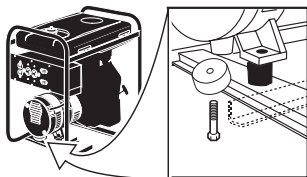

Figure 1
- Remove shipping block from under the gen head. Unscrew bolt and remove the shipping block. It is very important that this is removed before starting your generator. See Figure 1.